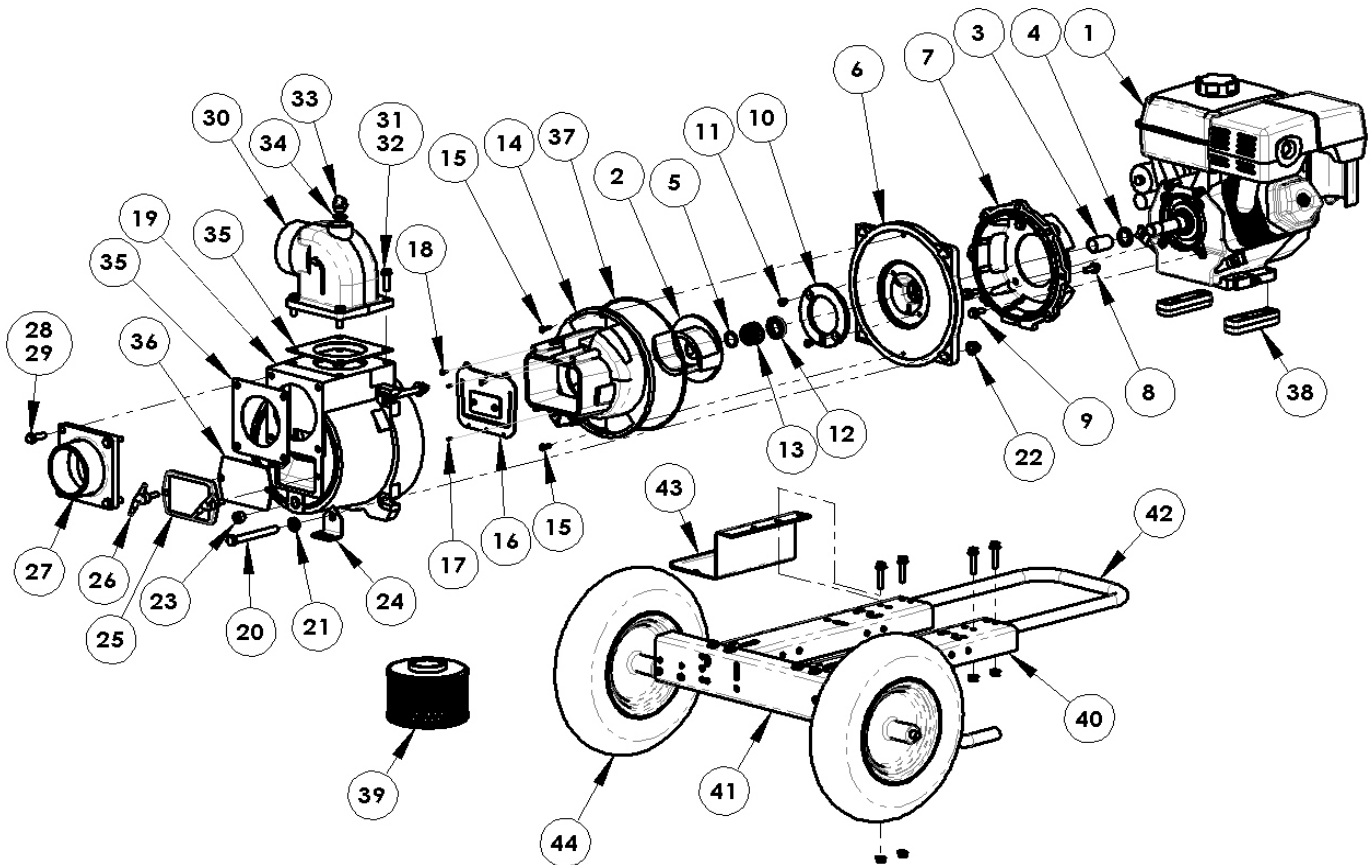

Figure 2 - Repair Parts Illustrations
(Refer to Figure 2)
2. Stand pump carefully on pump end. Reposition handle (Ref. No. 42) (as shown in Figure 2) facing outwards by removing and replacing existing handle fasteners.
NOTE: When the clearance between the impeller and the volute exceeds 1/16" at the face of the impeller or 1/8" on the outside diameter of the impeller, it may be necessary to take corrective action. The increased clearance can cause lengthened priming times and reduced pumping capacity. If both the priming and capacity of your unit are satisfactory for your application, it is recommended that no corrective maintenance be performed regardless of what clearances on your unit may have developed, since the increased clearances in themselves are not generally harmful to your pump. Normally, new pump clearances can be restored by simply shimming behind the impeller. (Add shim washers, Ref. No. 5). If the impeller is badly worn it is recommended that the impeller be replaced. This is usually all that is required since only on unusually abrasive services does the cast iron wear plate show deterioration. Occasionally a stone or hard object might get caught in the impeller and cause damage to the volute/cut water. In these cases, follow the instructions below for replacement and refer to Figure 2.